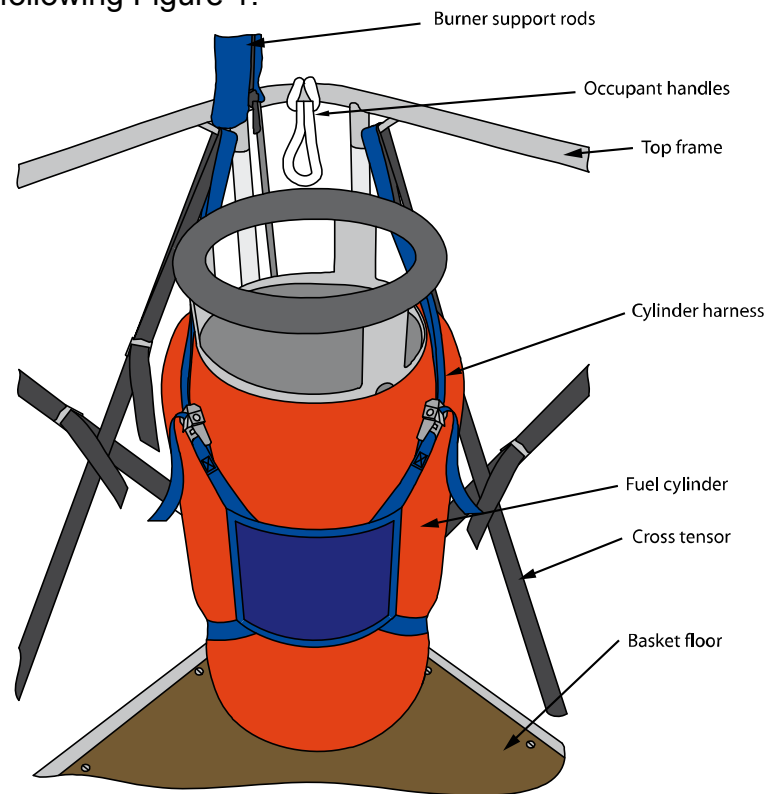

Figure 1 – Cylinder installation inside the basket
2. For cylinders installed inside the basket, the cross-harness supplied must be fitted to each cylinder. These should be attached so as not to allow any up and down as well as lateral movement, as shown in the following Figure 1: